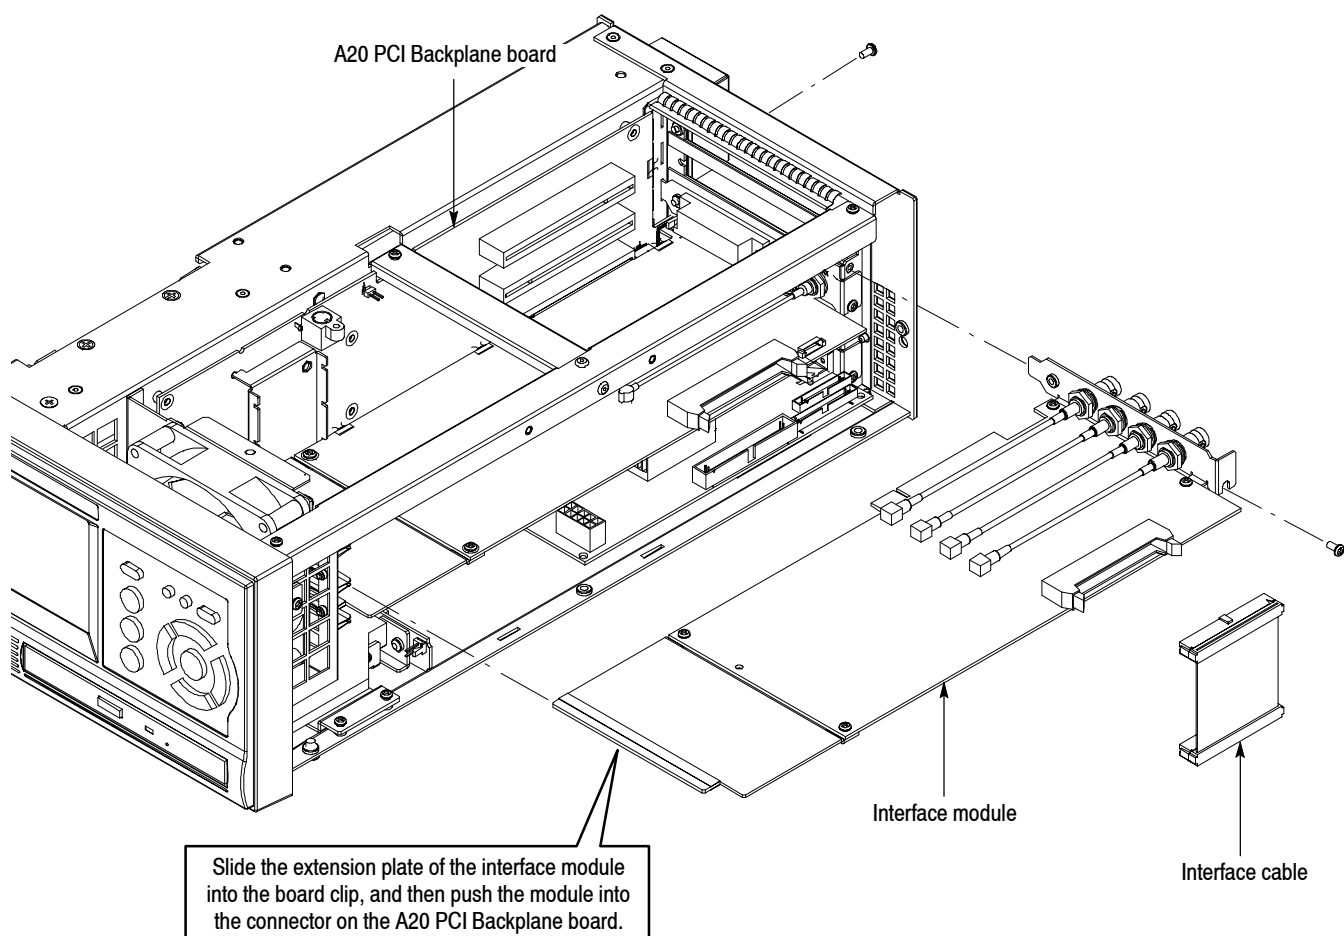

Figure 5: Installing the interface module
1. Insert the interface module into the card slot, paying attention to the module orientation. See Figure 5.
3. Use a screwdriver with a T-10 Torx tip to secure the interface module to the side and rear of the chassis, using the two screws that were removed from the blank panel. See Figure 5.
4. Use the interface cable that is provided in the kit to connect the A10 Main board and the interface module. See Figure 5.